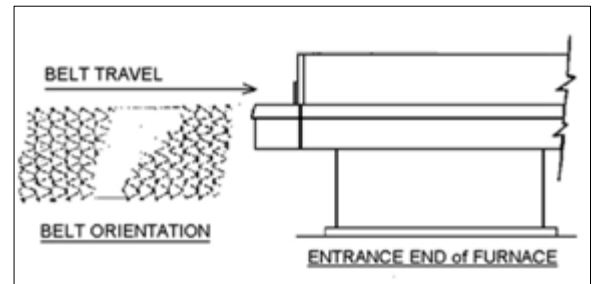

Figure 7-18 Belt Orientation
1. Position the new belt at the furnace entrance. Orient belt as shown in Figure 7-18.